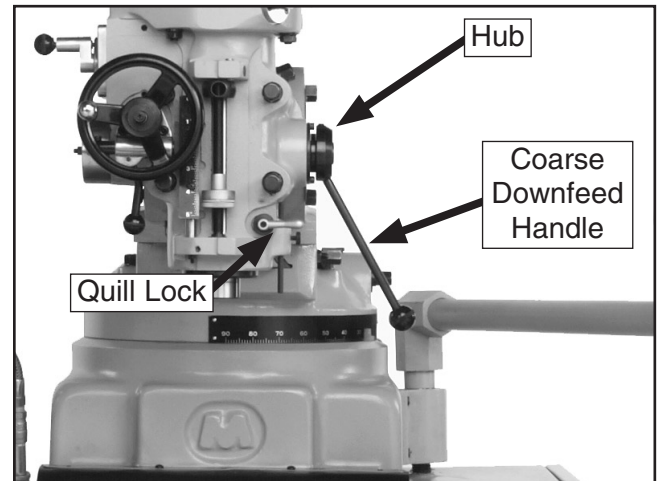

Figure 39. Coarse downfeed handle installed.
3. Align the pin in the handle hub with one of the holes in the handle base, then firmly seat the handle into the base (see **Figure 39**).
4. Make sure the quill lock is loose (see **Figure 39**), then rotate the coarse downfeed handle around its hub to control the depth of the spindle.